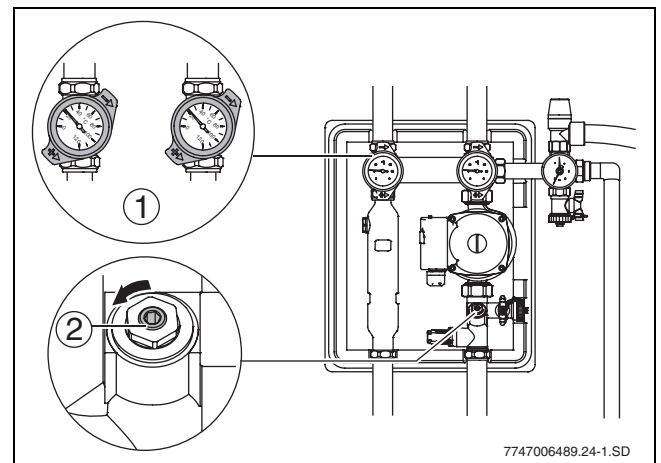

Fig. 16 Opened shut-off fittings
- ▶ Set the ball valves (→ Fig. 16, (1)) on the thermometers to 45° and open the flow limiter (→ Fig. 16, (2)) and other shut-off fittings.